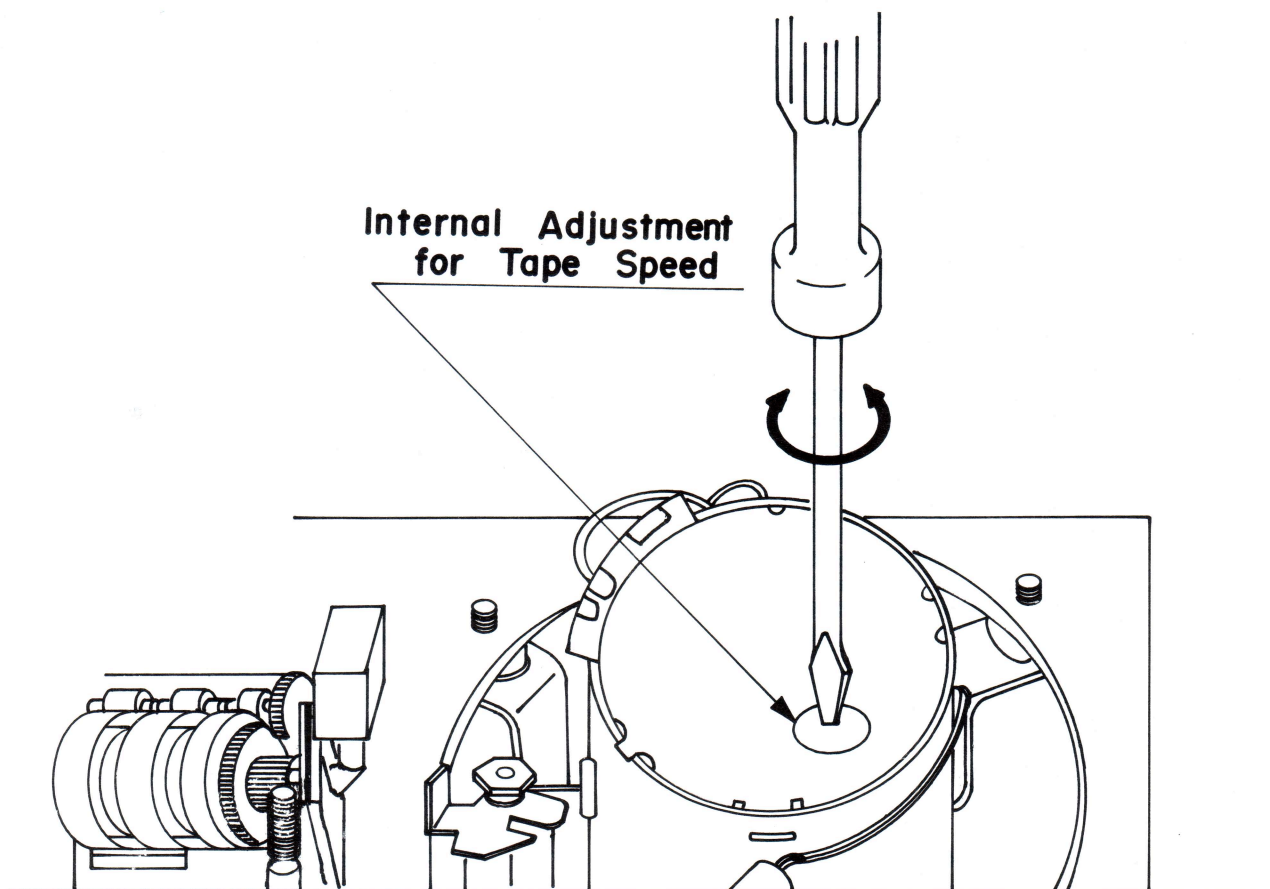

Fig. 3 Tape Speed Adjustment Location
3. Adjust the control located at the top of the meter for a reading of 3000 Hz \pm 5 Hz on the frequency counter (fig. 3). (This tape speed alignment should be done after approx. 30 seconds operating time).